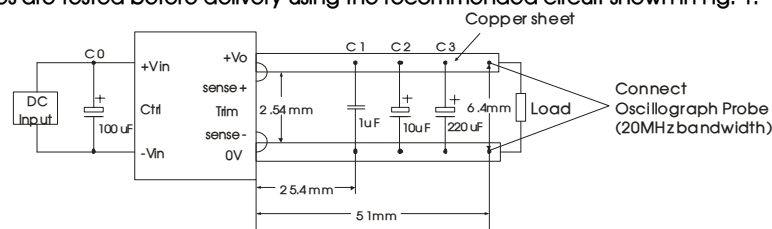

Fig. 1
Note: * For ripple and noise measuring method, please refer to Fig. 1
All DC-DC converters of this series are tested before delivery using the recommended circuit shown in Fig. 1.
- (1) We recommended using the recommended circuit shown in Fig.1 during product testing and application, otherwise please ensure that at least a 220 μ F electrolytic capacitors is connected at the input in order to ensure adequate voltage surge suppression and protection.
- (2) Input and/or output ripple can be further reduced by appropriately increasing the input & output capacitor values C_{in} and C_{out} and/or by selecting capacitors with a low ESR (equivalent series resistance). Also make sure that the capacitance is not exceeding the specified max. capacitive load value of the product.